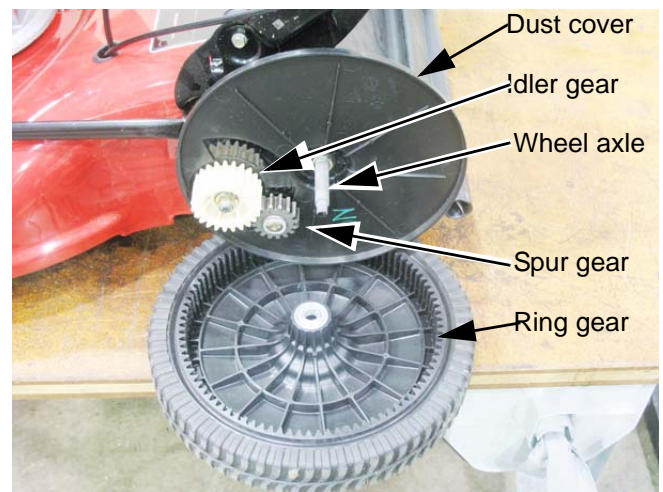

Figure 6.21
4. Pull the wheel off of the wheel axle. See Figure 6.21.